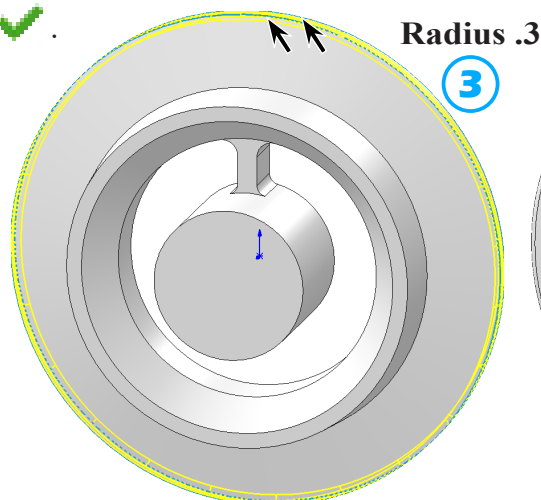

Fig. 25
- ③ **Radius**  **.3**
click **both outside circular edges of Wheel (2)**, Fig. 25